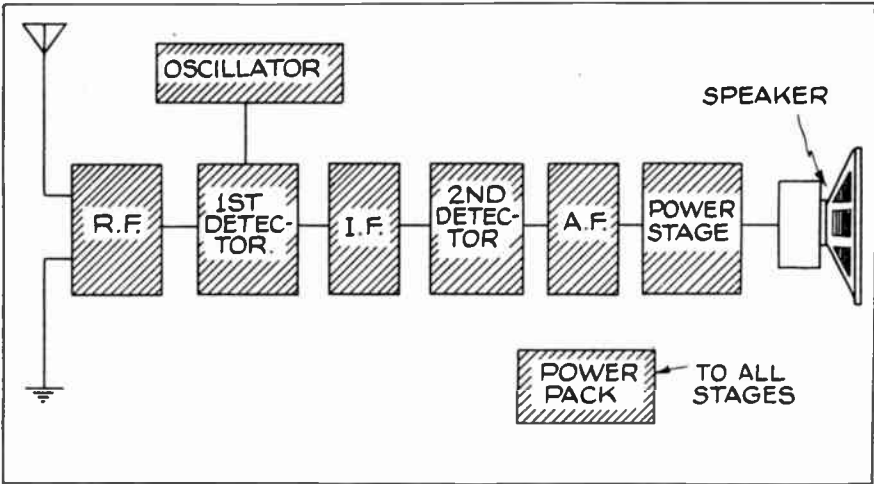

Fig. 62
(A) In a superhet, the incoming signal is amplified at radio frequency in the R.F. stage or stages which are usually present. It is then heterodyned, in a mixer tube or first detector, with a locally-generated frequency from the oscillator. There results a beat frequency (or intermediate frequency) which is amplified in the I.F. stage or stages, then rectified in the second detector. The resulting audio frequencies are amplified in the A.F. stages and fed into the reproducer. This is shown in simplified block diagram form as Fig. 62.